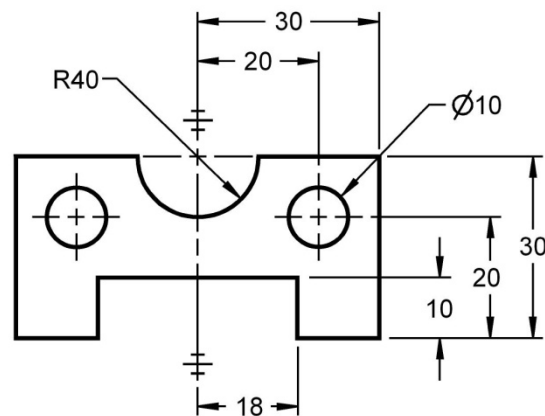

Figure 2-14: Center line of symmetry.
- f) If a part is symmetric, it is only necessary to dimension to one side of the center line of symmetry. The center line of symmetry is indicated by using the symbol "≡". On older drawings you might see the symbol "⌘" used instead. Figure 2-14 illustrates the use of the symmetry symbol.